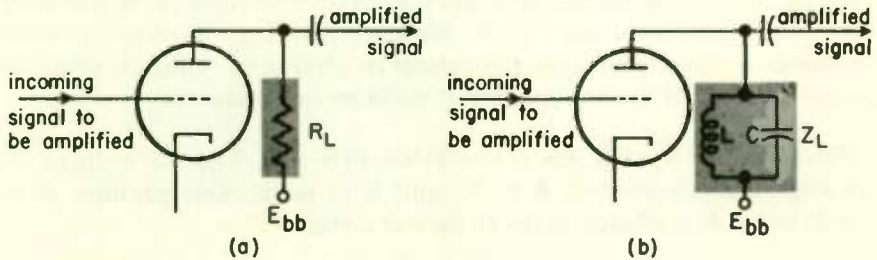

Fig. 29
7. (Review) What is the purpose of R_L in Fig. 29(a)?
8. The LC circuit Z_L in Fig. 29(b) takes the place of R_L in Fig. 29(a). In (a) the impedance of R_L is (a) *(different for different signal frequencies)* (the same at all signal frequencies). In (b) the impedance of Z_L is (b) *(different for different signal frequencies)* (the same at all signal frequencies).
9. Except at frequencies at which X_L in Fig. 29(b) is approximately equal to X_C , the impedance Z_L is too low for the tube to amplify much. The circuit of 29(b) is called a tuned amplifier because only frequencies at which X_C approximately equals X_L are amplified. The amplifier of Fig. 29(a) is untuned because it amplifies *(all frequencies)* (just one frequency).